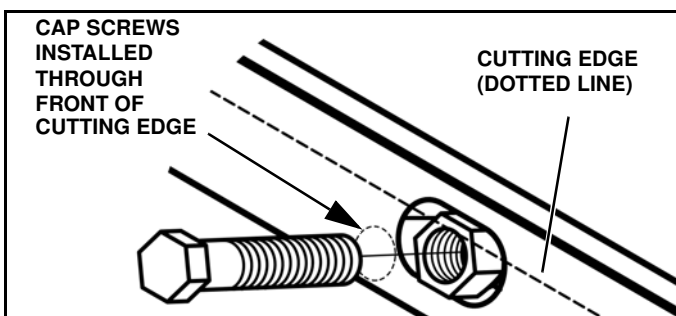

Figure 1-40
7. Insert and hand tighten one cap screw with nut in either end of the of the cutting edge. (See Figure 1-40).